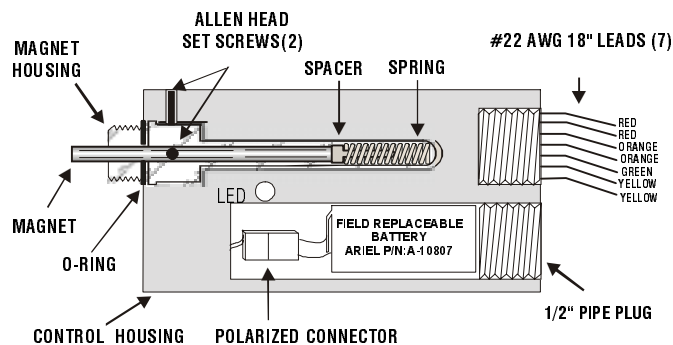

FIGURE 4-5: DIGITAL NO-FLOW TIMER SWITCH - (DNFT)
The DNFT is a microprocessor-based switch used to sense no-flow or slow-flow conditions in the compressor cylinder lubrication system to facilitate alarm and/or shutdown. The DNFT also contains an amber light-emitting diode (LED) cycle indicator to provide a positive visual indication of system operation. The Ariel DNFT includes a proximity switch. The standard DNFT is factory set for (3) three minutes from no-flow to alarm/shutdown signal and is not adjustable. Optional programmable models are available. Introduced in September of 1996, the DNFT replaced the traditional mechanical no-flow switch and is standard on all new units. Since its introduction, the DNFT has undergone a series of design enhancements and several versions are in service. The current DNFT is shown in Figure 4-5: